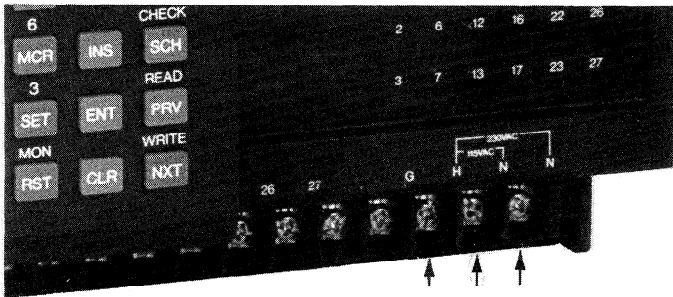

Figure 3.4 POWER CONNECTIONS
10. Select the proper length I/O expansion cable, either 3', 10', or 100', and insert one end of the cable in the connector on the left side of the Series One Junior PC. Both connectors are keyed for proper insertion. Connect the shield to the C terminal on the right side of the bottom terminal block on the Series One Junior (refer to Figure 3.4).